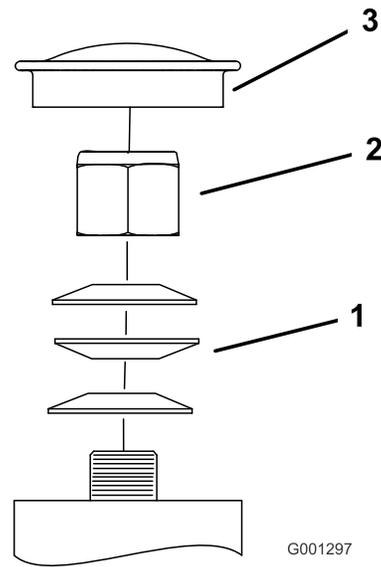

Figure 79
3. Remove the dust cap from caster and tighten the locknut (Figure 79).
4. Tighten the locknut until the spring washers are flat, and then back off a 1/4 turn to properly set the preload on the bearings (Figure 79).
Important: Make sure that the spring washers are installed correctly as shown in Figure 79.
5. Install the dust cap (Figure 79).